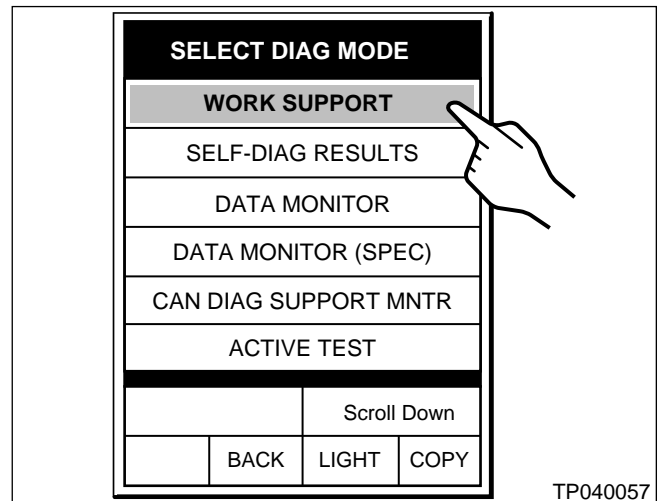

Figure 9
- b. Select **WORK SUPPORT** on the “Select Diag Mode” screen. See Figure 9.